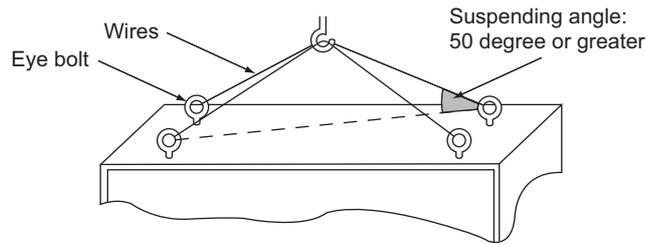

Figure 4 State of Suspension with Wires
**Note:** Use a wire long enough to ensure an angle of suspension that is at least 50 degrees. If not, the maximum allowable load of the eye bolts cannot be guaranteed. Refer to Figure 4 for details.